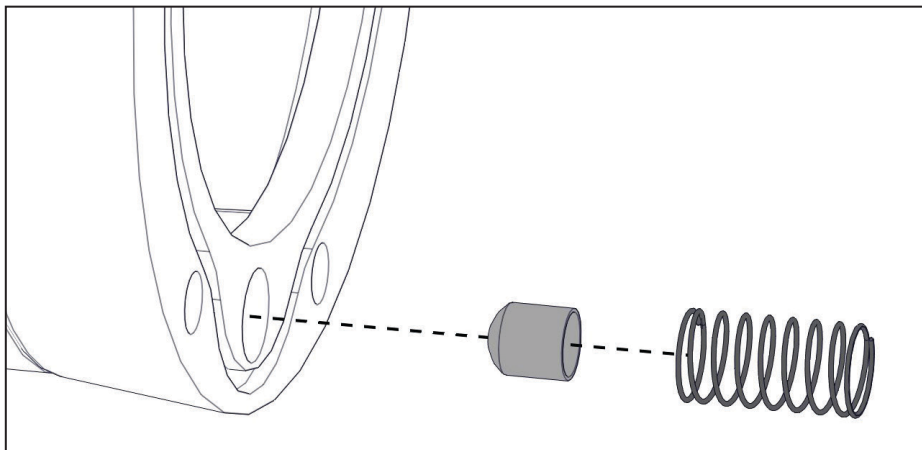

Figure 27 — Install thimble screen and spring
- ☐ Install the new thimble screen and spring (Figure 27).